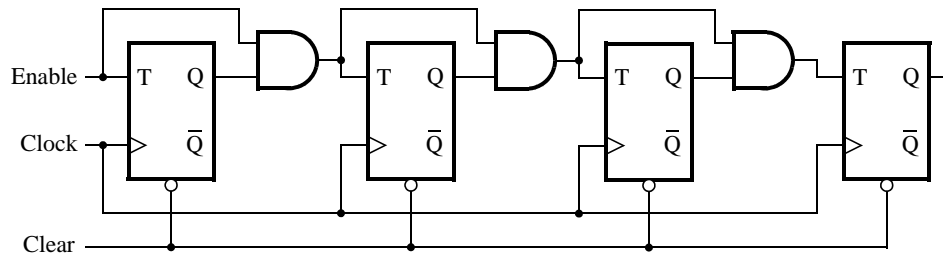

Figure 1: A 4-bit counter.
Consider the circuit in Figure 1. It is a 4-bit synchronous counter which uses four T-type flip-flops. The counter increments its value on each positive edge of the clock if the *Enable* signal is high. The counter is reset to 0 on the next positive clock edge if the synchronous *Clear* input is low. You are to implement a 8-bit counter of this type.
1. Write a VHDL file that defines an 8-bit counter by using the structure depicted in Figure 1. Your code should include a T flip-flop entity that is instantiated 8 times to create the counter. Compile the circuit. How many logic elements (LEs) are used to implement your circuit?
5. Implement a 4-bit version of your circuit and use the Quartus II RTL Viewer to see how the Quartus II software synthesized your circuit. What are the differences in comparison with Figure 1?